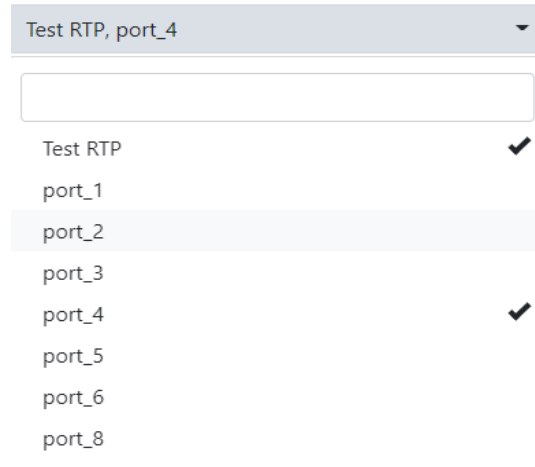

Figure 5-3: Selecting the RTP channel and one of the ports.
8. Click the name of the RTP channel and one of the ports that the RTP stream will be directed towards as shown in Figure 5-3.